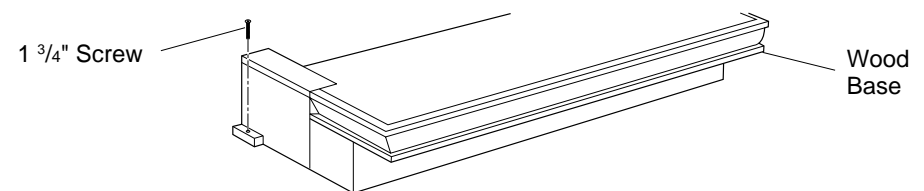

Figure 13 - Attaching Wood Base to Floor
10. Attach wood base to floor with two 1 3/4" black screws provided (see Figure 13). If the floor is concrete use anchor method (see *Attaching Wood Base to Solid Floor*, page 14).
15. Adjust assembly to remove any gaps. Attach remaining two 3" wood screws from hardware pack through openings inside of fireplace sides into the mantel. The openings are located at top behind the area for the brass louvers (see Figure 13).